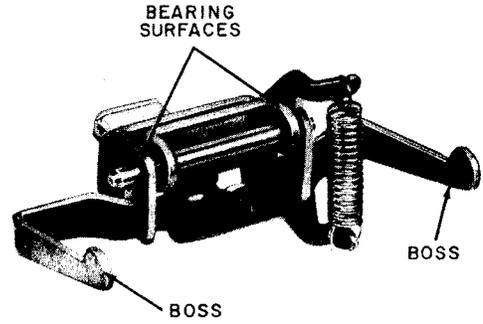

**Fig. 22 — Replacing Capacitor**
- (1) Select either of network terminals A or K to which only one lead is connected.
- (2) Remove this lead and connect to one lead of 548A capacitor with a D-161488 connector and insulating sleeve.
- (3) Connect other lead of 548A capacitor to remaining network terminal K or A (Fig. 22).